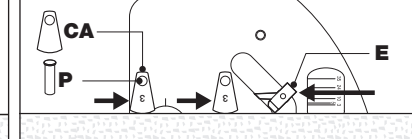

Fig. 4c
- Once the Worktop True Cut touches the worktop edge, gently tighten the handle - **(Fig. 4c)**